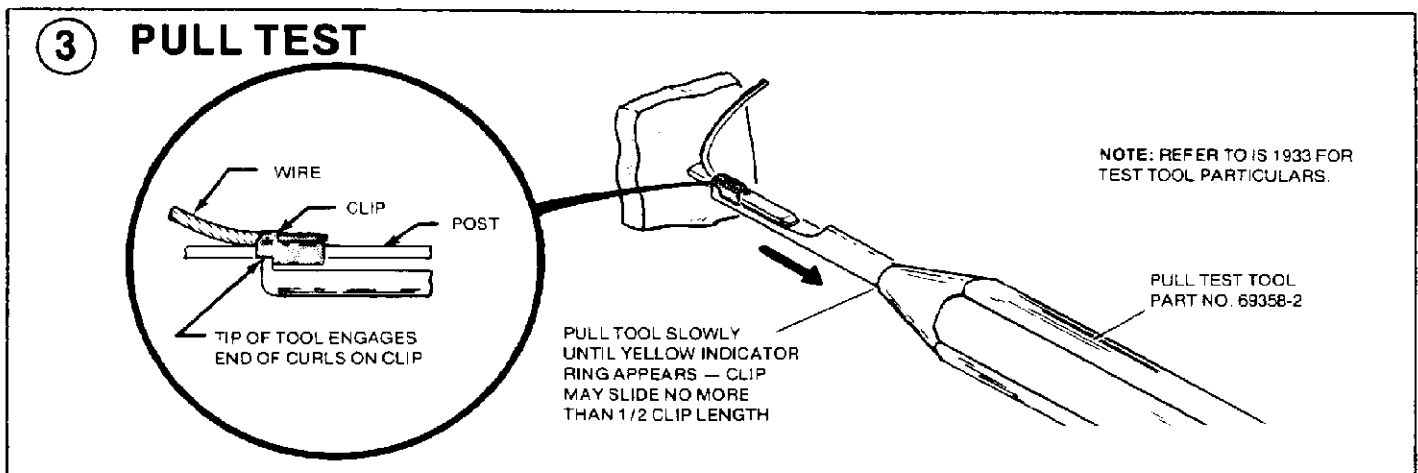

Figure 6
- Hook tip of test tool squarely against ends of curls at front end of clip. See Figure 6.